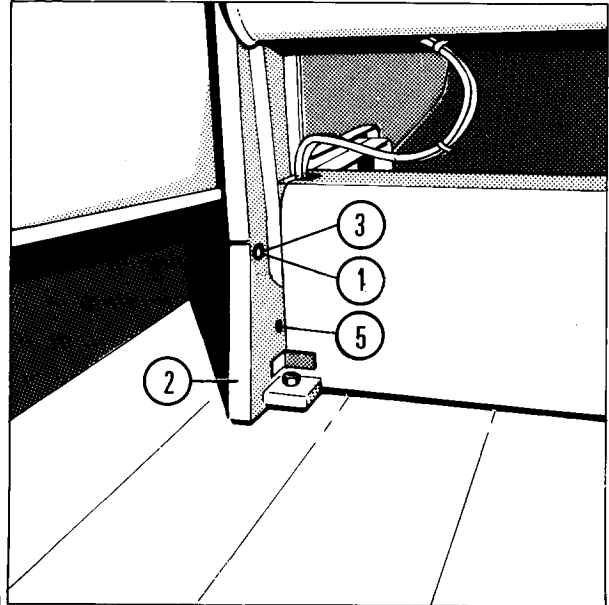

Fig. 2
Remove the end switches with housing (Fig. 2/item 2) on both sides of the table base. Therefore remove snap ring (item 3), take off the washer, pull out the bolt (item 4), turn out flat head screw (item 5), and remove the end switches with housings (item 2). Set up the unit on prepared level surface and install mounting bolts and washers on 4 places. Do not tighten at this time. Level the unit on frame structure. Compensate with shims under table base mounting points, if necessary. Carefully tighten the mounting bolts with a torque of 25 Nm (2.5 kpm). Note: the table base must not be distorted in any direction.